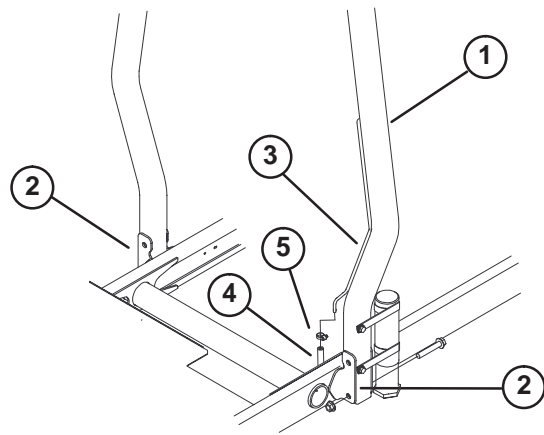

Figure 11
2. Secure each side of roll bar to mounting brackets with (2) flange head capscrews and locknuts (Fig. 11). Torque fasteners to 60 ft-lbs.